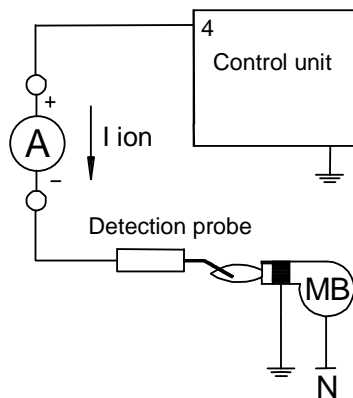

Fig.4
- the level of the flame signal is sufficient, see Fig.4 to execute the test;